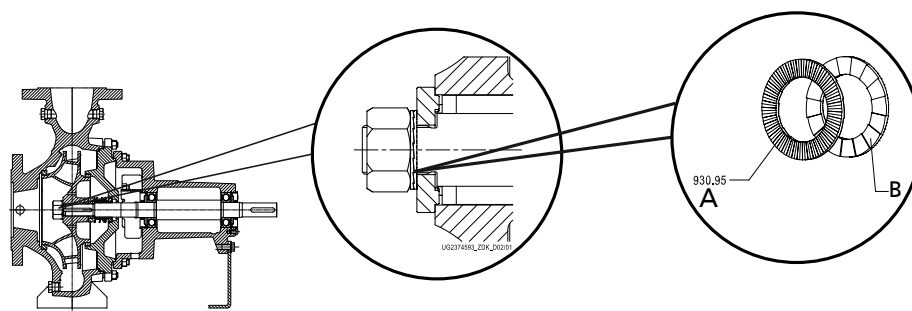

Fig. 25: Lock washers 930.95
2. Fit disc 550.95 and lock washers 930.95 in pairs (⇒ Fig. 25) and fasten impeller nut 920.95. (⇒ Section 7.6, Page 64)